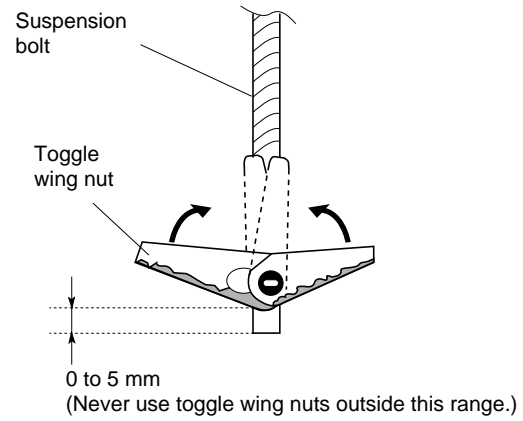

Fig. 3-69
- The 2 toggle wing nuts are used as temporary measure when suspending the unit. You must observe the tolerances shown at right. The unit cannot be installed correctly if more than 5 mm clearance is given between the end of the suspension bolt and the bottom of the toggle wing nut as noted in the illustration. (Fig.3-69)